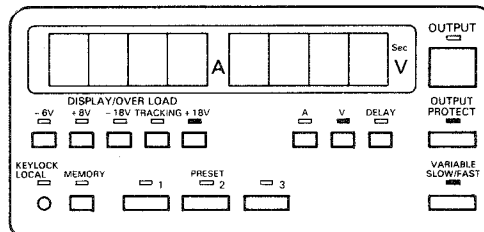

Fig. 11
- 1) Set the LEDs as indicated in Figure 11. Always make sure that the OUTPUT LED ⑰ is not lit.
- 3) Press the A KEY ⑥ and turn the Rotary Encoder to set a positive current limit value.
- 4) Press - 18V KEY ⑧ and turn the Rotary Encoder to set a negative current limit value.
- 5) Press the V KEY ⑤ and turn the Rotary encoder to set a negative voltage value.
- 6) Press the MEMORY KEY ⑮ and confirm that the VARIABLE LED ⑭ goes off.
- 7) If one of the PRESET KEYS (1,2,3) ⑯ is pressed, the MEMORY LED ⑮ goes off and the LED of the selected
- 1) Press the OUTPUT KEY as shown in Figure 11, to turn off its LED.